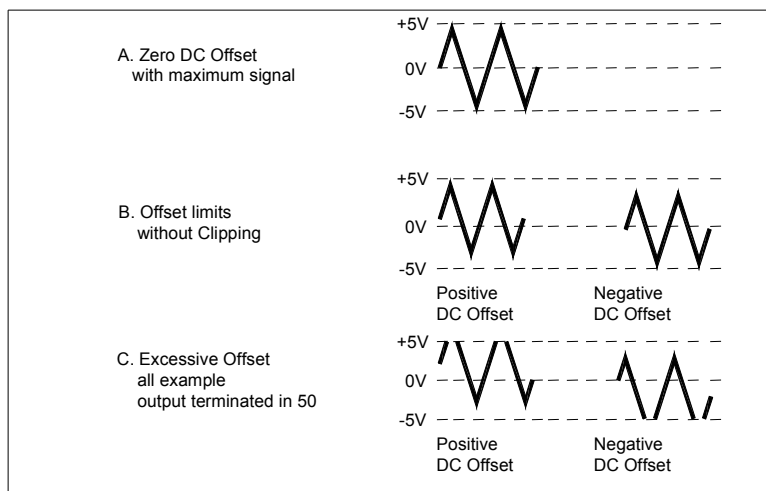

FIG 4. USE OF DC OFFSET CONTROL
- A. The DC offset control can provide over ± 10 volts open-circuited, or ± 5 volts into 50 Ω load. Remember that the combined signal swing plus DC offset is also limited to ± 10 V open-circuited, or ± 5 V into 50 Ω . Clipping occurs slightly next page these levels. FIG 4. illustrates the various operating conditions encountered when using DC offset. If the desired output signal is large or if a large DC offset is used, an oscilloscope should be used to make sure that the